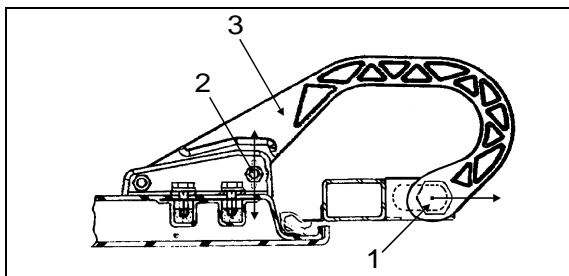

FIGURE 73: DOOR HINGE
7. Loosen screws (5, Fig. 73) to allow the door to be shifted "UP or DOWN".